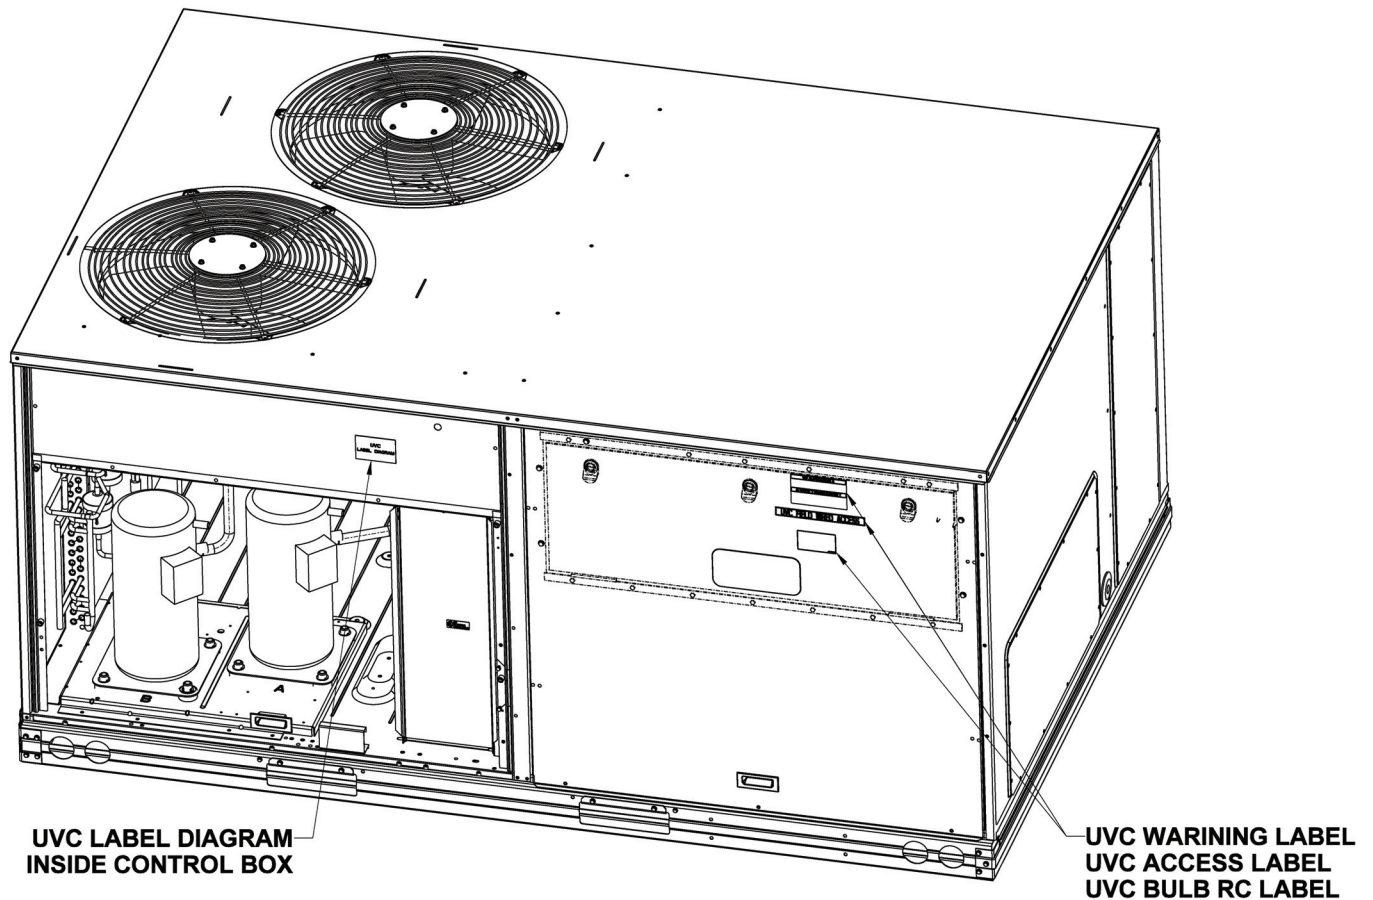

Fig. 10 — Label Locations
4. Route black, white and green wires from the on/off switch and white wires from UVC light through existing wires bundle to the Control Box. Secure the wires with provided wire ties. (See Fig. 10.)
5. Use UV conduit provided to shield wires from direct exposure to UV-C light. (See Fig. 10.)